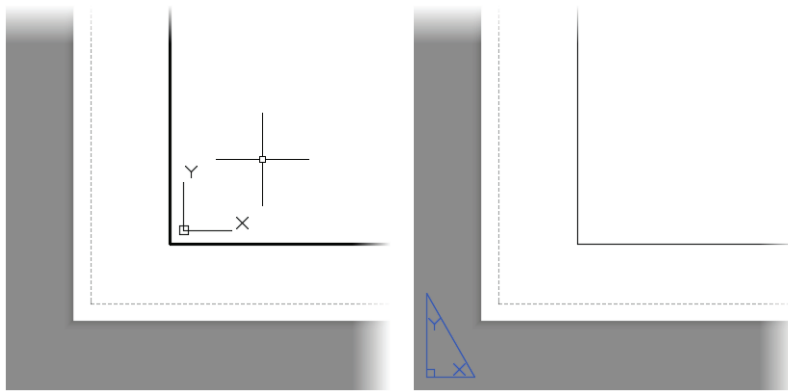

FIGURE 14.11: The layout in model space (left) and in paper space (right)
- ▶ If the UCS icon consists of two lines inside the solid border (see the left of Figure 14.11), you are working in model space.
- ▶ If the UCS icon is shaped like a triangle and located in a portion of the drawing area (see the right of Figure 14.11), you are working in paper space.